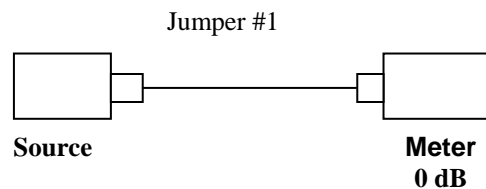

Figure 1: Referencing the output power of the source using one jumper.
- a) This step requires the use of an SC to SC cable assembly (jumper). Connect the ends of the jumper to the optical source and meter as shown in Figure 1.
- b) Verify that the output power level is within the test unit manufacturer recommended values and then press the reference button. The meter should read 0.0dB after referenced. See Figure 1.